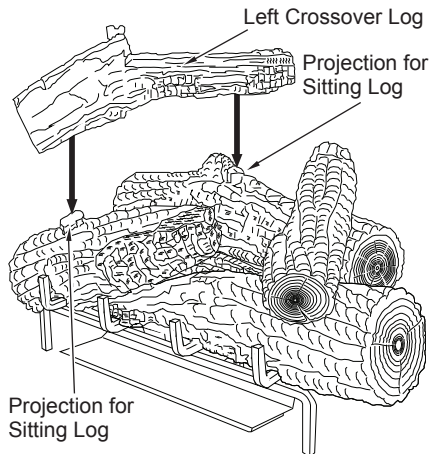

Figure 54 - Installing Left Crossover Log
6. Place the left crossover log onto the rear log and the left front log as shown in Figure 54. The left crossover log has notches in the bottom that will line up with the projections on the rear log and the left front log.